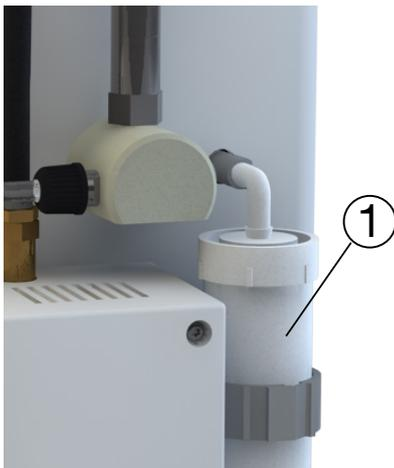

Fig. 5.2: The silencer on the rear side of the instrument
- Make sure that the silencer (① in figure 5.2) is filled with polyester fibres and install it: